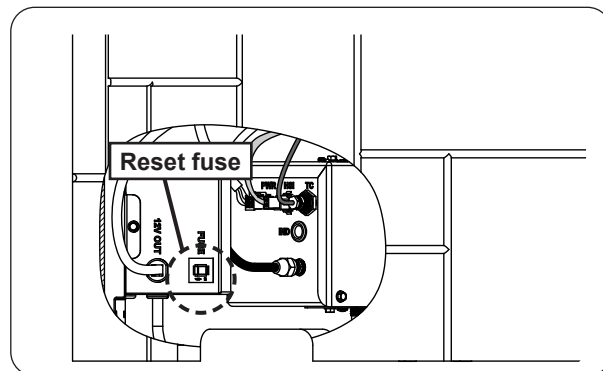

Fig. 47-2 Reset fuse
2. Gain access to the valve box and reset the fuse as shown in Fig. 47-2.